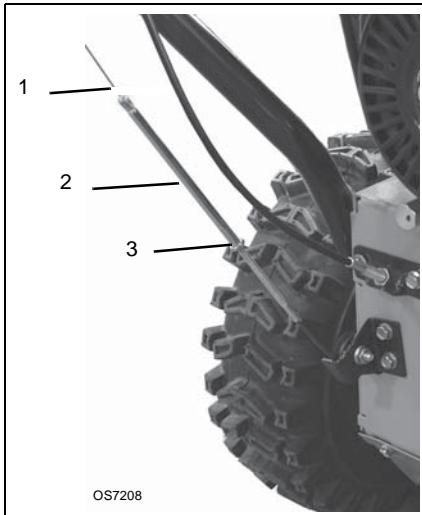

Figure 42
4. To adjust traction clutch (Figure 42):